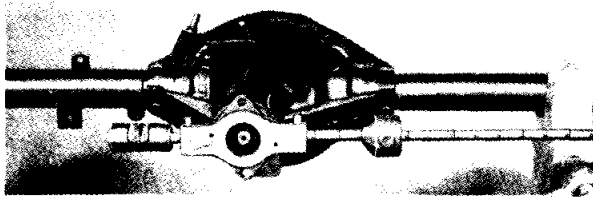

Fig. 25 Testing the pre-load of the pinion bearing utilising the Churchill Tool No. 20SM. 98
- (xi) The fixture shown in Fig. 25 is now applied and the pre-load of the bearings checked. The correct pre-load should fall between 15—18 in. lbs. If the pre-load is inadequate shims must be withdrawn, whereas if an excessive figure is obtained additional shims must be fitted.